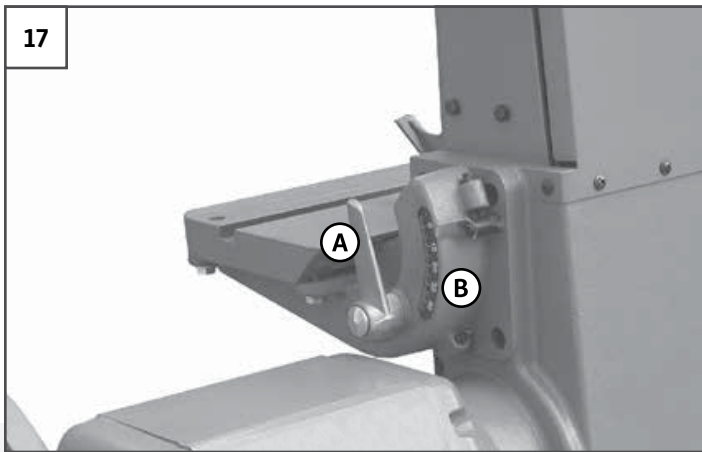

FIGURE 17: ADJUSTING BELT TABLE TILT
1. Loosen the **TABLE LOCK HANDLE (A)**. See Figure 17.
2. Tilt the table to the desired angle, as indicated on the **BEVEL SCALE (B)**.
3. Turn the **TABLE LOCK HANDLE (A)** clockwise to secure the table in position.